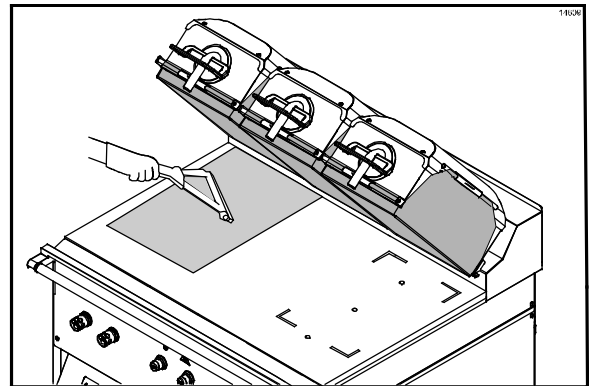

Figure 73
50. Using the grill squeegee, gently squeegee out air bubbles, making sure not to crease or fold the release sheet. (See Figure 73.)